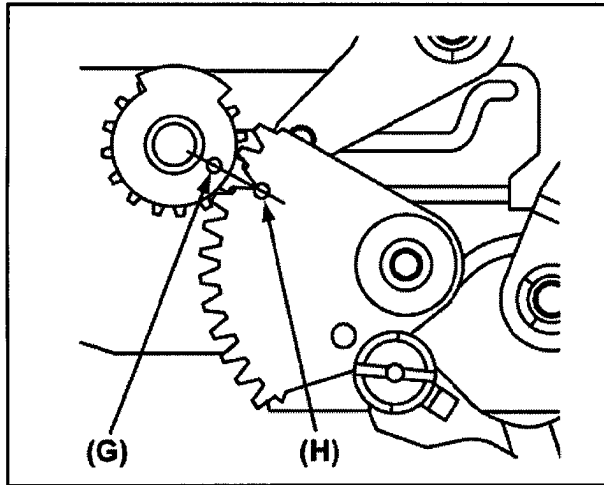

Fig.4-15
2. The hole (G) and (H) should be geared. (Fig.4-15)